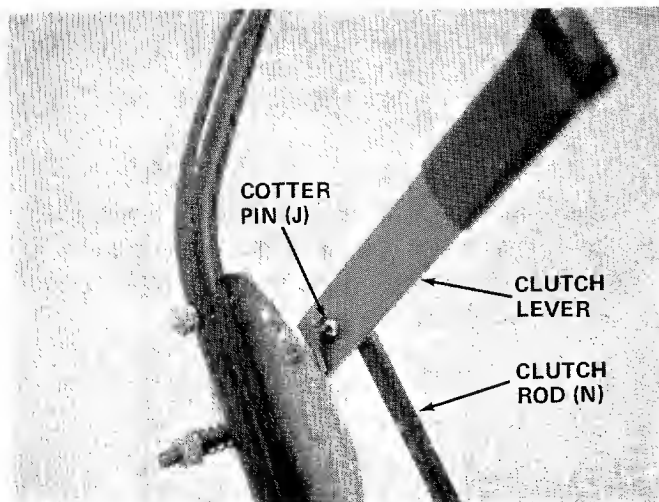

FIGURE 8.
9. Place hook end of clutch rod (N) in clutch lever. Secure with cotter pin (J). See figure 8.